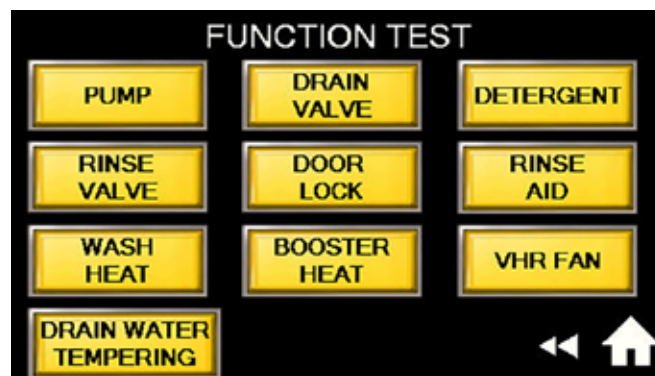

Fig. 68 - Function Test menu
1. Press the Function Test button, (Fig. 68).